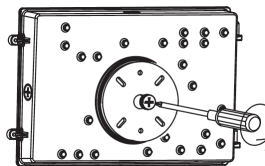

Fig. 1.5
5. Use a screwdriver to remove the plug. (Fig. 1.5)